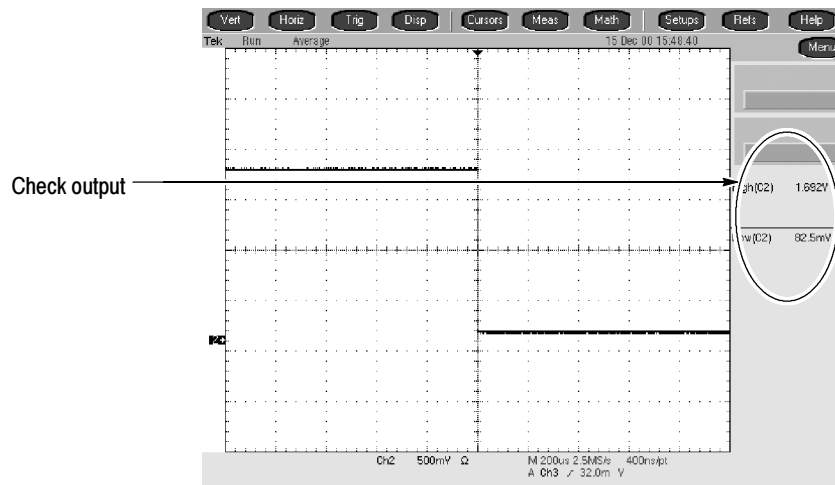

Figure 4-29: Measurement of trigger out limits
- c. *Check AUX OUT output against limits:* CHECK that the **CH 2 High** readout is ≥ 1.0 volt and that the **CH 2 Low** readout ≤ 0.25 volts. See Figure 4-29.